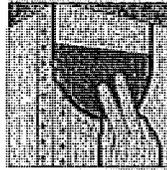
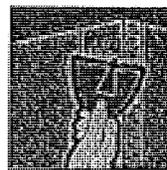

Fig. 13
Fig. 14
**Metal Corner Bead and Trim** apply joint compound with 8" knife onto one flange of corner bead. Work down the entire length of the bead. Hold knife at 45 degree angle and smooth compound - one edge of knife riding the metal, the other on the surface of the panel. Compound should extend onto panel a minimum of 4". Repeat application for other flange (fig. 13). Tip: After filling first flange, the metal corner edge may have some lumps of joint compound. To remove, run 8" blade up the bead while also moving it to the side (fig. 14).